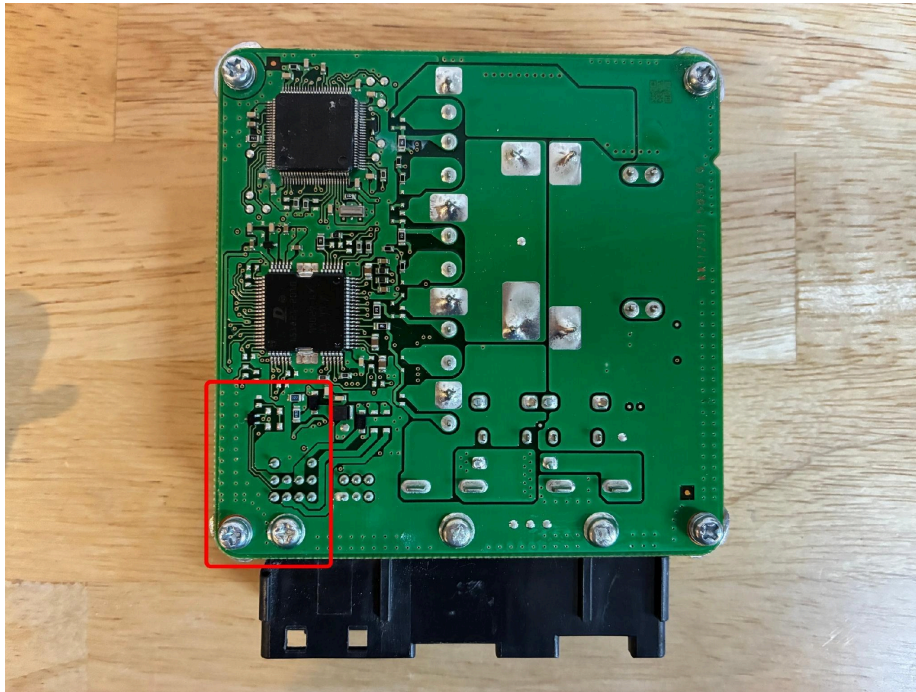

FIG1 — PCB back side. Red box marks the work area (bottom-left, near the black connector)
2. Find the area at the bottom-left, near the connector — this is the trace-cutting and soldering work area (red box in FIG1).